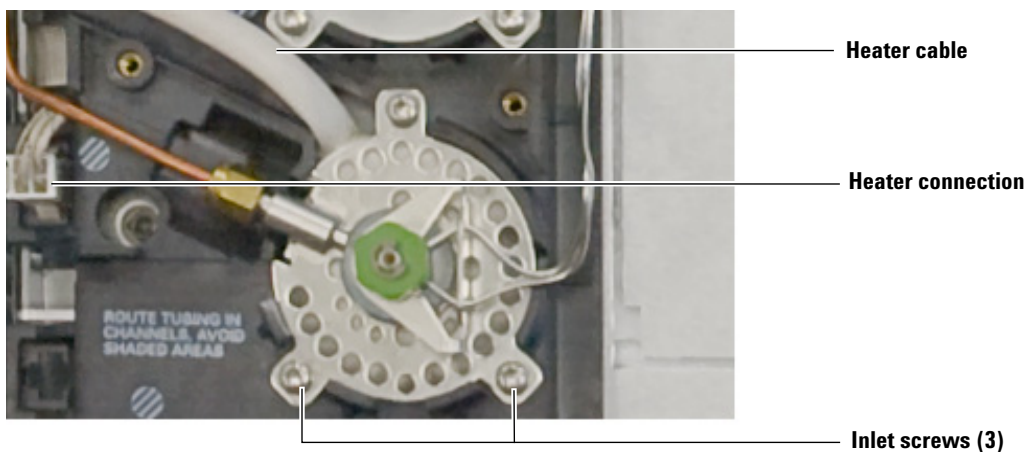

Figure 6 SSL inlet installed
- 4 To secure the SSL inlet to the GC chassis, start each screw one at a time to ensure the inlet is aligned and screws are properly threaded. Then tighten each screw in turn evenly until snug. See Figure 6.